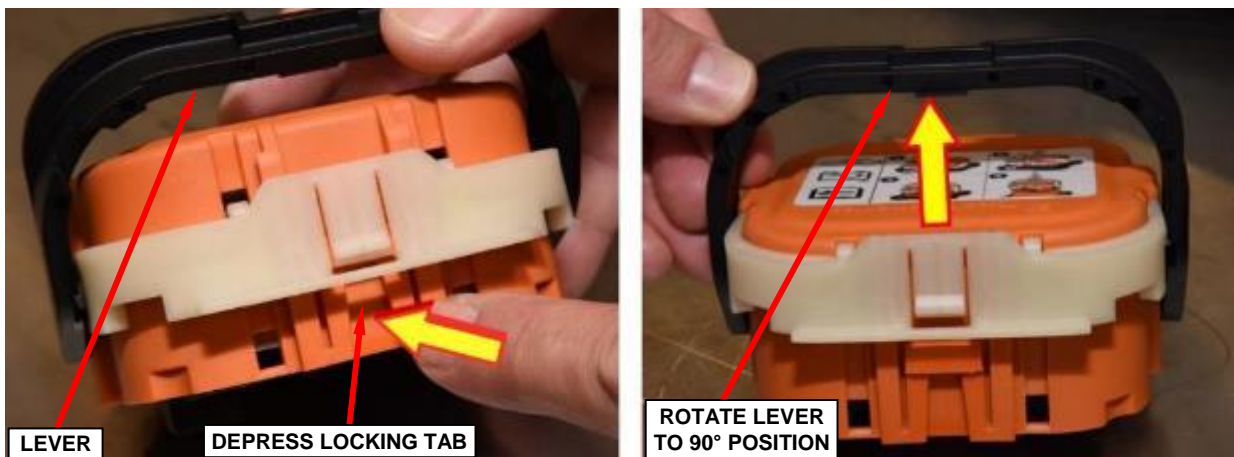

Figure 8 – High-Voltage Manual Service Disconnect Second Stage Latch Release (High-Voltage Manual Service Disconnect Removed from Vehicle for Visual Clarity)
- Depress the locking tab and continue to rotate the lever to the end of travel, 90° position (Figure 8).